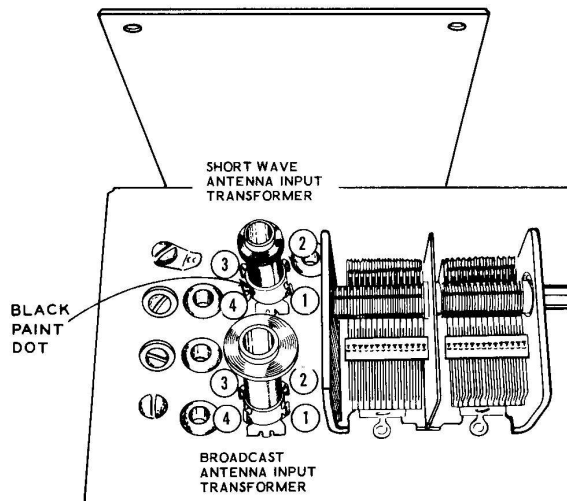

Figure 10M
- (P) Connect a 2" length of hookup wire to lug 4 of side D of the band switch (S).
- (P) Connect a 2" length of hookup wire to lug 3 of side D of the band switch (S).
- (P) Connect a 1-1/2" length of hookup wire to lug 2 of side D of the band switch (S).
- () Mount the short wave antenna input transformer (#40-300) in position as shown in Figure 10M. Note that there is a black dot on the coil to identify lug 4.